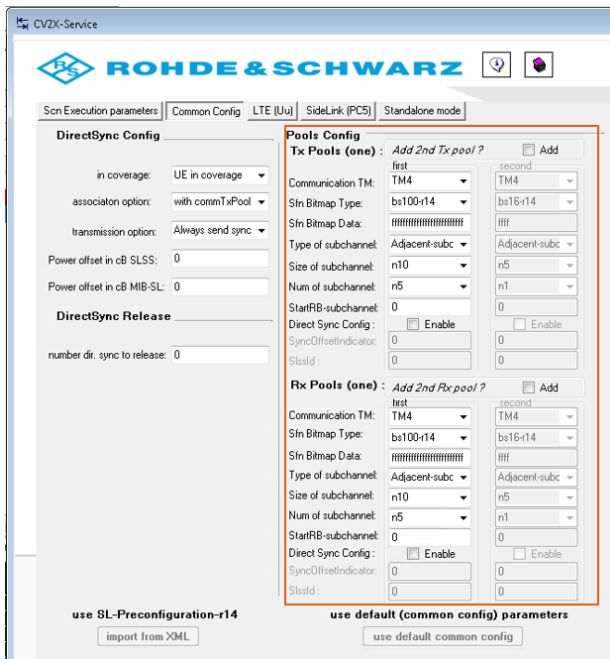

Figure 6 DUT pools configuration
- ▶ Choose the *Common Config* folder and set pools configuration compatible to the used DUT (example see Figure 6)